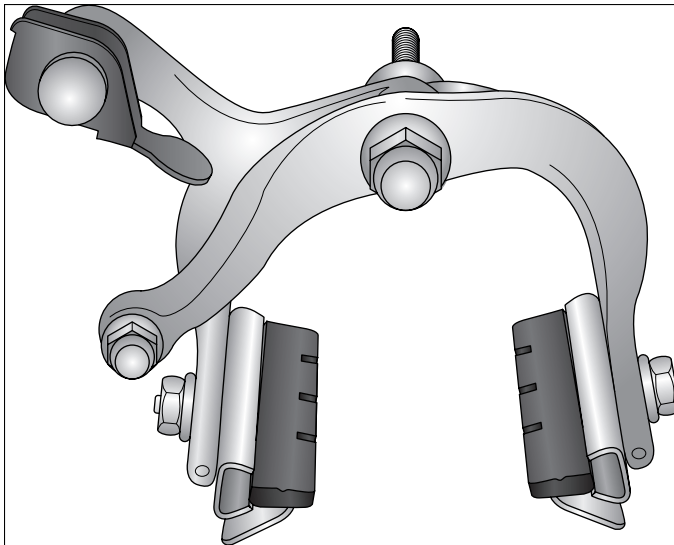

Figure 8-3:
- **Center-mount brakes:** With center-mount brakes (see Figure 8-3), the brake cable attaches to one of the brake arms. The brake arms are together as one unit and mounted to a single pivot, which sits above the wheel. (In the double-pivot variety, there are two pivots — one on each side of the wheel — but still only one center mounting bolt.) The brake pads are at the bottom of the arms. Center-mount brakes don't provide as much power as V-brakes or cantilevers. They're commonly found on road bikes and lower-price bikes.